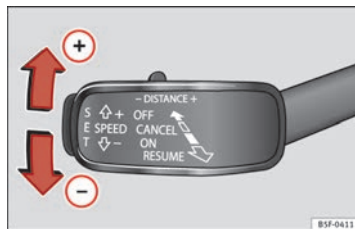

Fig. 136 On the left of the steering column: third lever for operating the Adaptive Cruise Control.
- Press the **SET** ⇒ Fig. 136 button to programme current speed.
- To increase or reduce speed step by step, press the lever up/down briefly ⇒ Fig. 136.